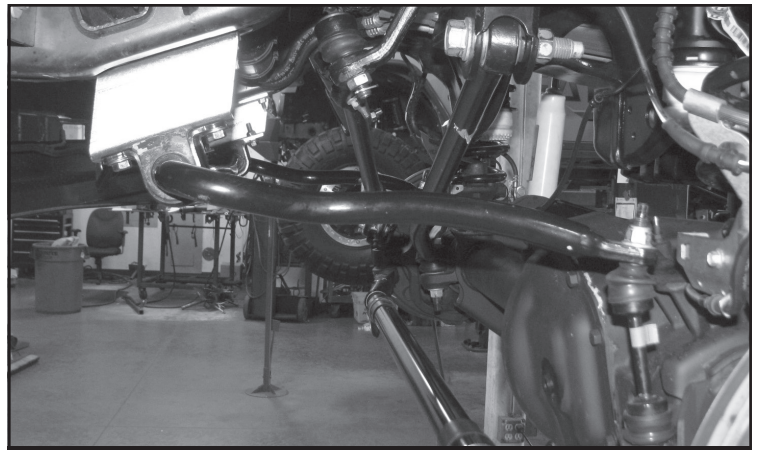

FIGURE 30 - STEP 30
30. Install FT3400-112P (Driver) & FT3400-112D (Passenger) Sway bar drop brackets using the factory hardware. Torque to 35 ft-lbs. Reinstall the front sway bar to the end links using the supplied 7/16" hardware torque all hardware to 83 ft-lbs. Reconnect the sway bar to the end links. Torque to 59 ft-lbs **SEE FIGURE 30**